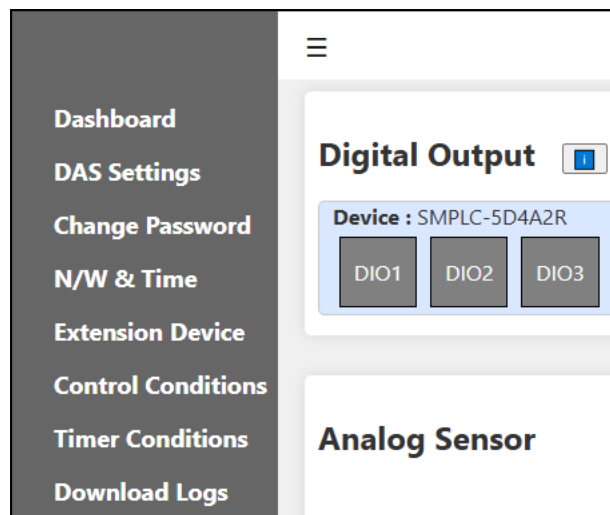

Figure 36: Navigation Menu Options
- **Navigation Menu:** The menu provides options for exploring different device settings. Clicking on the Navigation Menu opens a dropdown list of options, as shown in Fig 36, enabling user to navigate to various pages by selecting them.